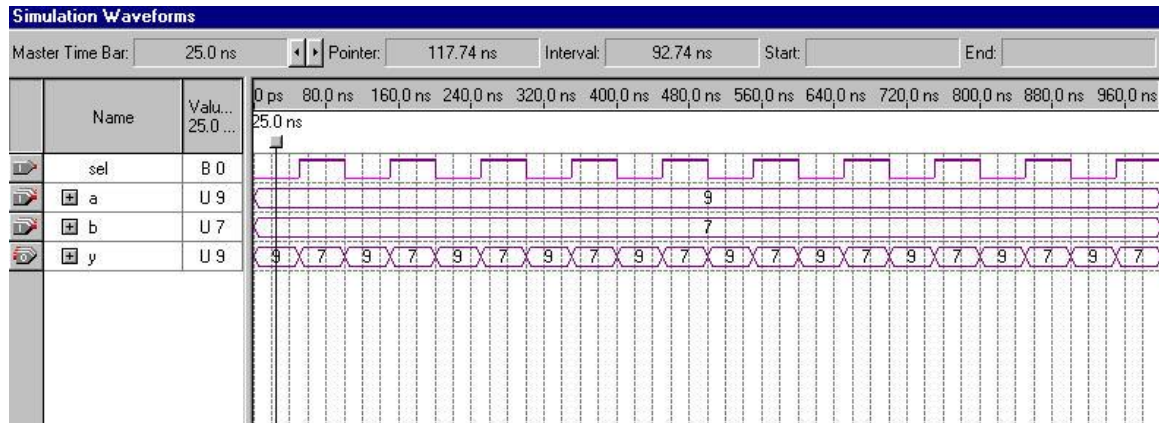

Figure 2-6.
7. Check to see if you get the same results shown in Figure 2.6.